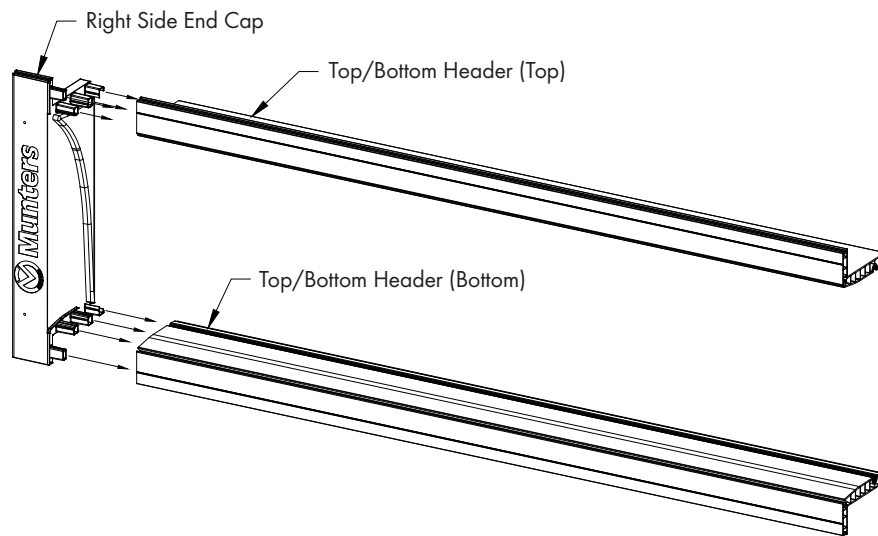

Figure 1
Insert (2) Top/Bottom Header pieces onto the Right Side End Cap. See Figure 1.